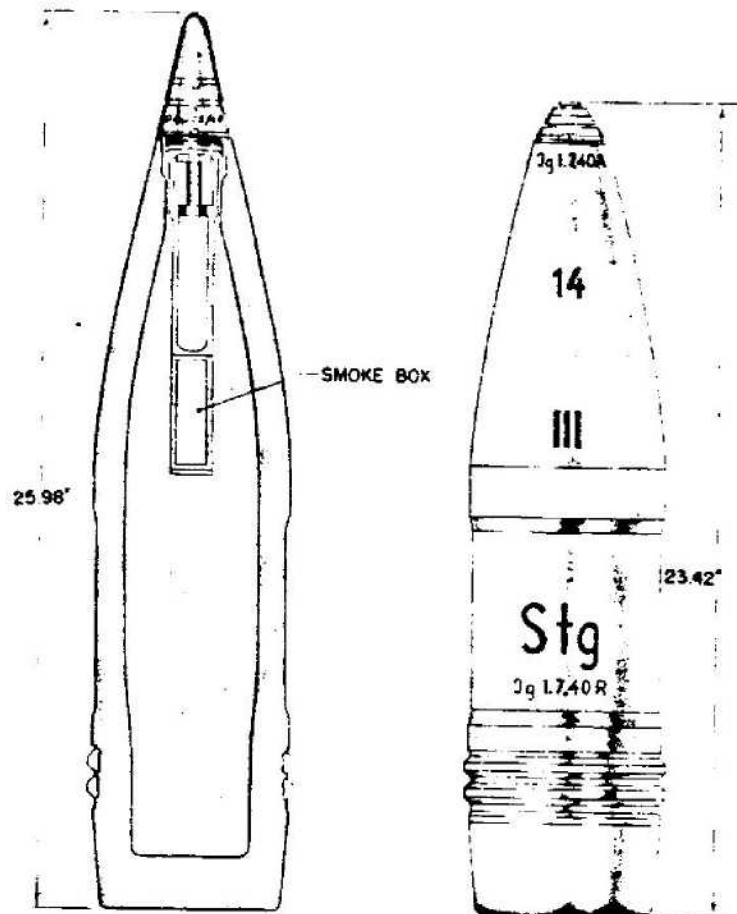

Figure 498—H. E. Projectile of Cast Steel, 150-mm, 15-cm Gr. 19 Stg.
**GERMAN NOMENCLATURE:** 15-cm Gr. 19 Stg. (Granate 19 Stg.). (See fig. 498.)